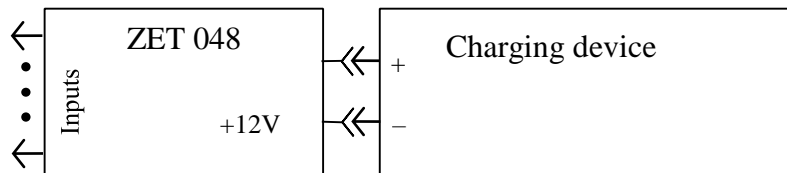

Figure 1.9. Charging device connection to ZET 048-E
1.6.2.6.2 Charging of the internal batteries of ZET 048-E Recorder version is through + and – ports located on the Recorder control panel. To start batteries charging, it is necessary to connect the charging device to + and – ports (Figure 1.9) and press Заряд (Charging) button.